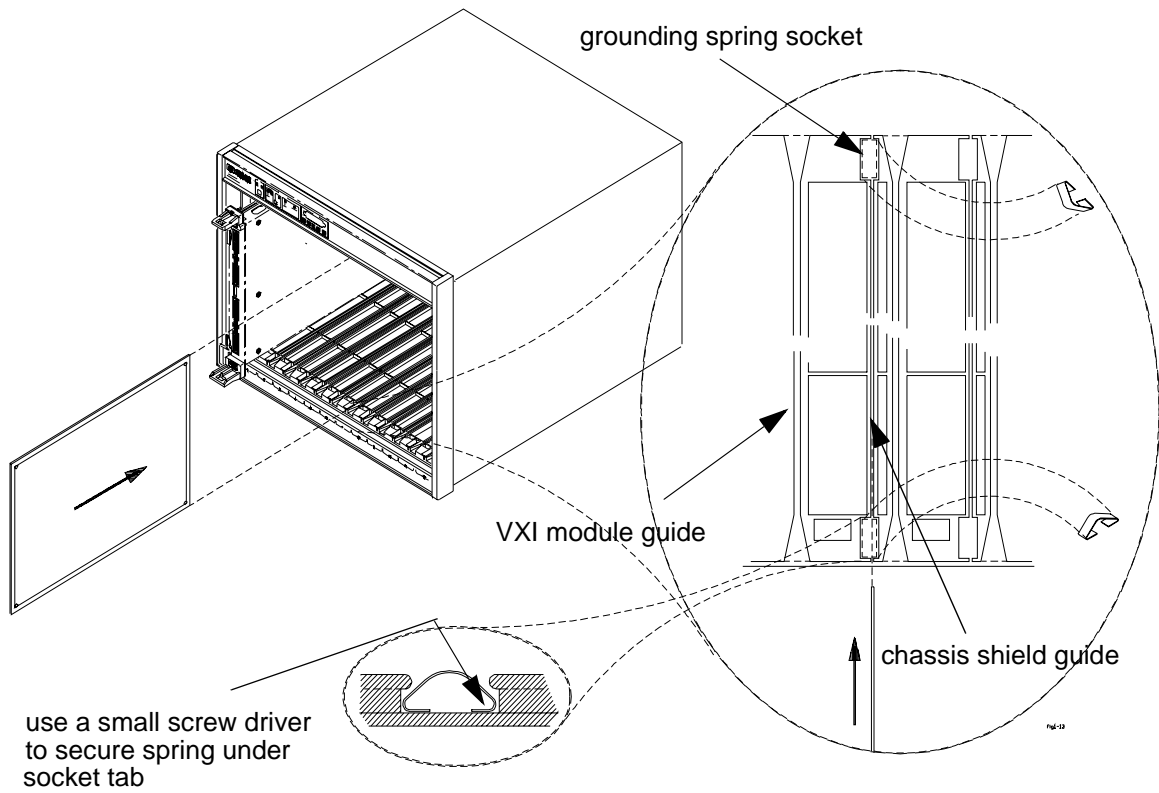

Figure 2-13. Installing the Grounding Springs and Chassis Shield.
Note Each mainframe slot has top and bottom chassis shield guides (Figure 2-13). Chassis shields should be installed on both sides of an instrument generating interference/noise, or installed on both sides of a sensitive instrument.
1. Insert grounding springs into the four sockets (two top, two bottom) along the shield guides (Figure 2-13). Use a small flat blade screwdriver to secure each spring under the socket tab.